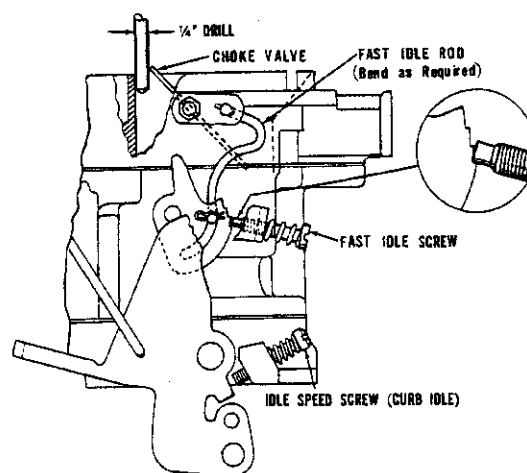
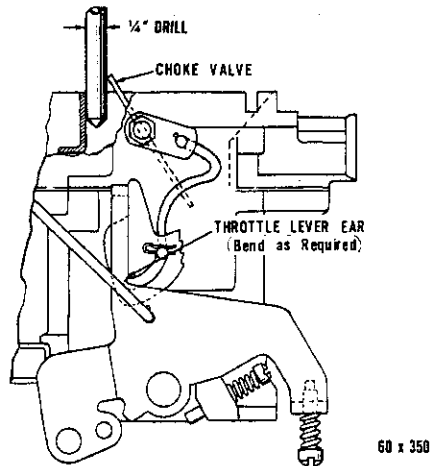

Fig. 22—Fast Idle Speed and Cam Position Setting
Fig. 23—Unloader Adjustment (Wide Open Kick)
a. Fast Idle Speed and Cam Position Adjustment (Fig. 22)
(1) Turn the idle speed adjusting screw out far enough to clear the throttle lever tang when the throttle valves are closed.
(2) Hold the throttle valves in the closed position, and turn the fast idle adjusting screw out until the fast idle cam can be positioned as shown (Fig. 22).
(3) From the point of initial contact with the step of the cam, as shown, turn the fast idle screw in 3 1/2 turns.
(4) With the fast idle screw held in the position illustrated, move the choke valve (with light pressure) toward the closed position and insert a 1/4 inch drill between the choke valve and the wall of the air horn.
(5) If an adjustment is necessary, bend the fast idle rod at the upper bend, using Tool T109-213, until correct opening has been obtained.
b. Unloader Adjustment (Wide Open Kick) (Fig. 23)
(1) Lightly hold the choke valve closed, then open